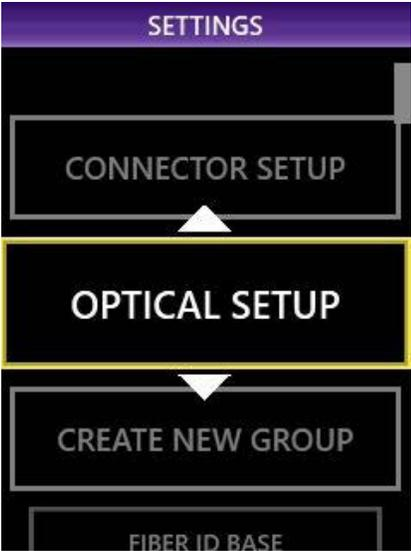

Figure 5
- Step 3. Scroll down to Optical Setup and press the Action Button, or tap the menu item to confirm (see Figure 5).